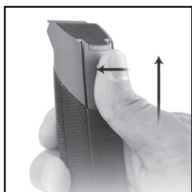

Fig.2
3. To remove an attachment head, hold the handle of the trimmer with one hand, while holding the attachment head with the other hand. Push up on the attachment head with your free hand to remove it (Fig.2)